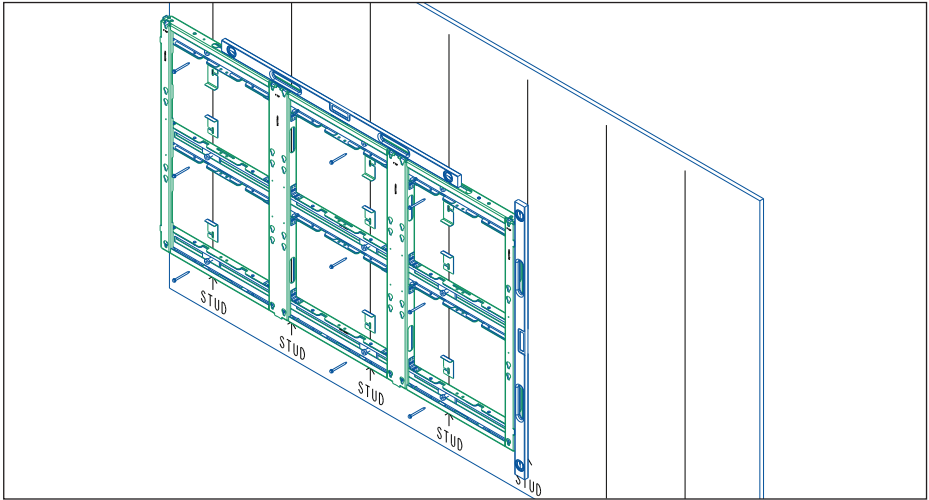

Figure 5: Install TEK Screws in Remaining Bolt Assemblies
6. Depending on site-specific conditions, attach the frame to the substrate using TEK screws (HC-3979953), Spax screws, or lag screws. Install the screws through the hollow bolts into the respective studs. Start with the frame corners first, and fill in remaining available screws. Refer to **Figure 5**.